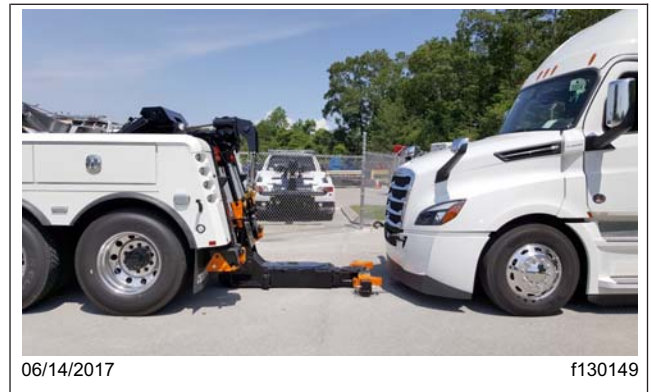

Fig. 23.5, Positioning the Stinger Assembly
4. Lower the stinger assembly so that it is level and approximately 1 inch (0.3 cm) off the ground. Back the tow truck so that the crossbar with lift adaptors is within 6 inches (15 cm) of the Aero bumper. See Fig. 23.5.